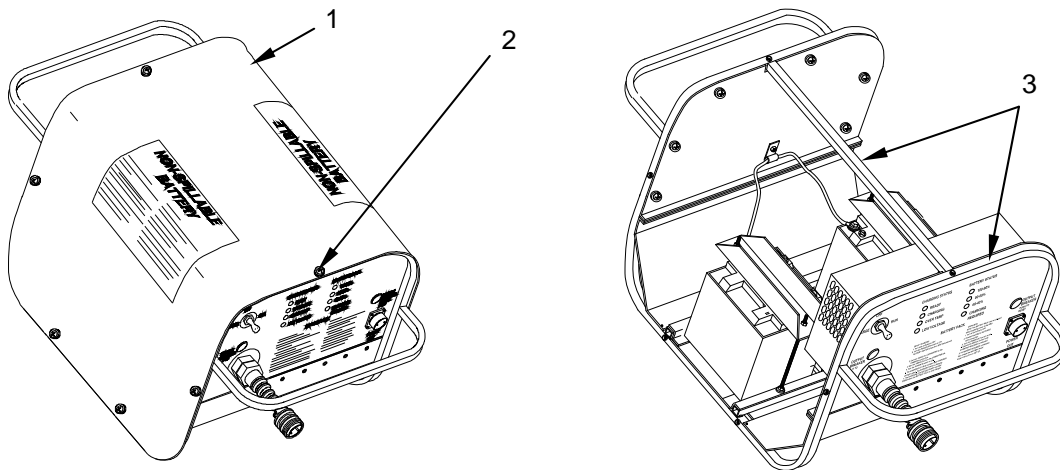

Figure 1. Inspect the Battery Pack.
1. Remove the battery pack outer cover (Figure 1, Item 1) by removing the cover retaining screws (Figure 1, Item 2) with a suitable screwdriver. Retain the screws for reassembly.
2. Inspect the battery pack for broken or loose welds on the frame (Figure 1, Item 3). If broken or loose welds are found, refer to Field Maintenance for repair IAW WP 0045.
3. Install the outer cover (Figure 1, Item 1) and secure with the cover retaining screws (Figure 1, Item 2).